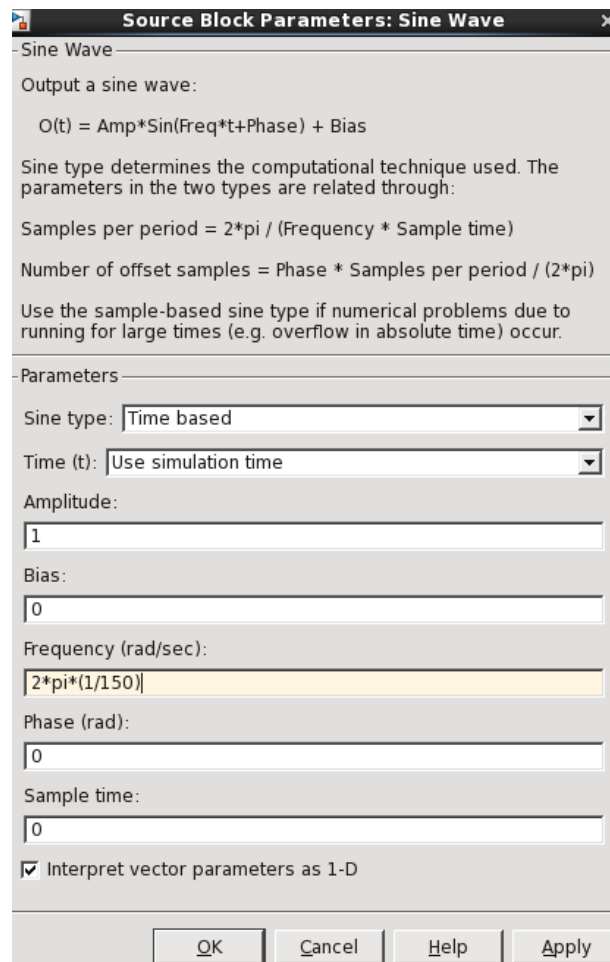

Figure 7: Source Block Parameters window with frequency specified.
6. The next step is to assign a frequency of  $w = 2\pi f = 2\pi(1/150)$  to the Sine Wave source. Double click the Sine Wave block to open the Block Parameters window and enter the value of  $2\pi(1/150)$  for the Frequency as indicated in Figure 7. Select OK to enter the value and close the window.